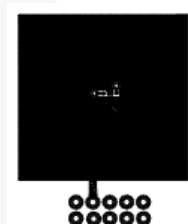
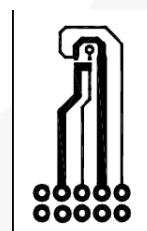

Figure 4. 1 Square Inch of 2-ounce copper
Figure 5. Minimum Pads of 2-ounce Copper
$T_A = 25^\circ\text{C}$ ⁽²⁾ (see Figure 5)	0.9
2. The device power dissipation and thermal resistance (R_θ) are characterized with device mounted on the following FR4 printed circuit boards, as shown in Figure 4 and Figure 5